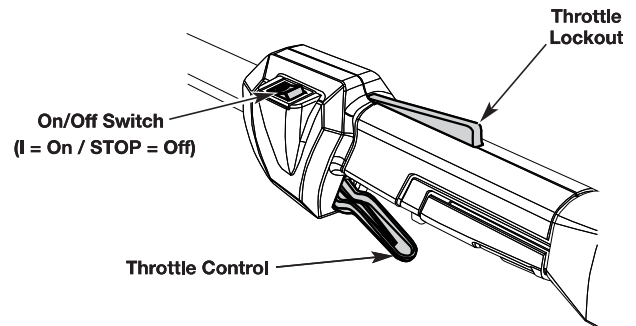

Fig. 8
**NOTE:** There is no need to turn the unit on. The On/Off switch is in the On ( I ) position at all times (Fig. 8).
7. To increase trimmer cutting speed, press and hold the throttle lockout with one hand, and then squeeze the throttle control with the other. The further you squeeze the throttle control, the more the cutting speed will increase (Fig. 8).
2. Press and hold the On/Off switch in the Off ( O ) position until the engine comes to a complete stop (Fig. 8).